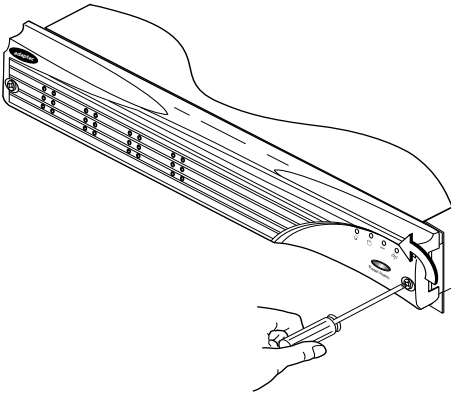

Figure 3-5 Unlocking the Front Bezel
- 1 Unlock the front bezel by turning the screws one-quarter turn to the left. See Figure 3-5.